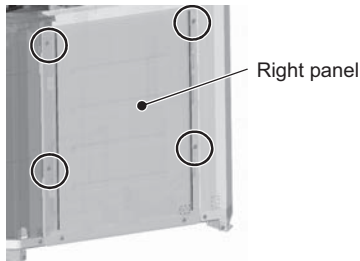

Figure 1
- (1) Remove the front heat exchanger. Refer to 8-12-11 Maintenance Procedures for the Heat Exchanger <Type A/Type A1> for details.
- (2) Remove the top, front, and right compressor covers. Refer to 8-12-6 Compressor Replacement Procedure <Type A> or 8-12-7 Compressor Replacement Procedure <Type A1> for details.
- (3) Remove the duct from the control box. Refer to the control box replacement procedure for details.
- (4) Remove the right and inside (right) panels by unscrewing the eight screws. (Applicable only to the S-module. See Figures 1 and 2.)